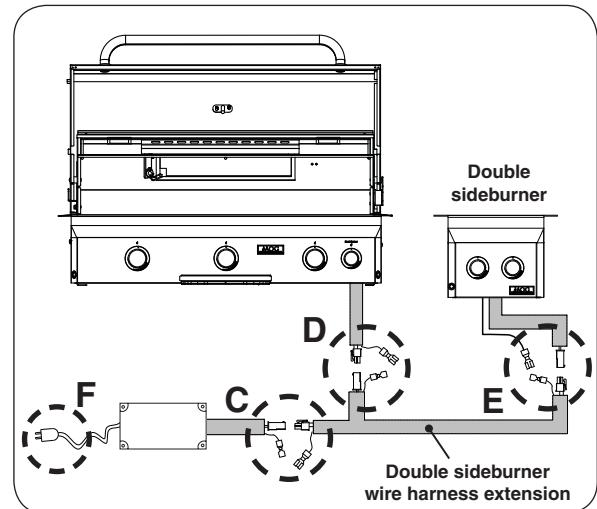

Fig. 16-3 Connect sideburner to grill setup
3. Locate the end of the double sideburner wire extension that has two molex and ground connections. Connect the extension (receptacle) molex connection to the power supply (plug) molex connection and ground wires (See Fig. 16-3, **C**).
4. Connect the extension (plug) molex to the grill (receptacle) molex connection and ground wires (See Fig. 16-3, **D**).
5. Connect the opposite end of the extension to the sideburner as shown in Fig. 16-3, **E** (molex and ground wire connections).
6. Reconnect the power cord (see Fig. 16-3, **F**).